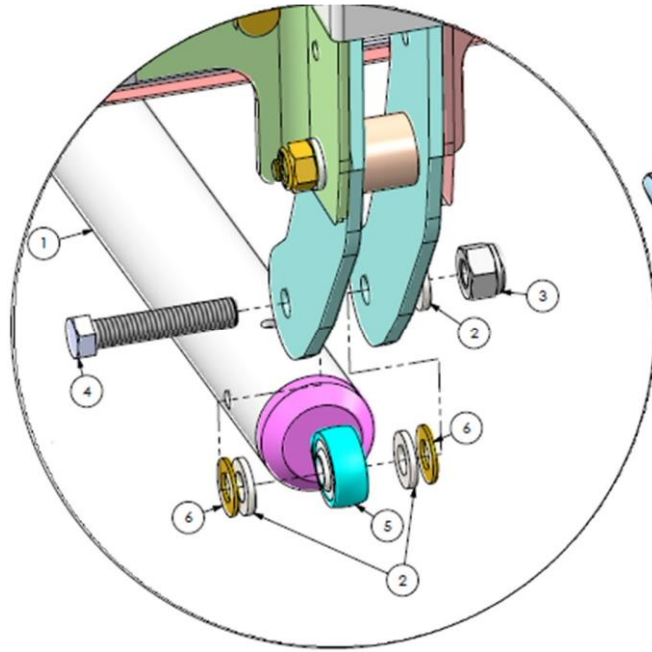

Figure 22: Detail G
Step 13. Remove the AN4 locknut (3) and bolt (4), shown in Figure 22.
- Step 14. Replace the *noncompliant* eyebolt (5) with either a *type 1* or *type 2*.
Step 15. Reassemble the eyebolt assembly as seen in Figure 22.